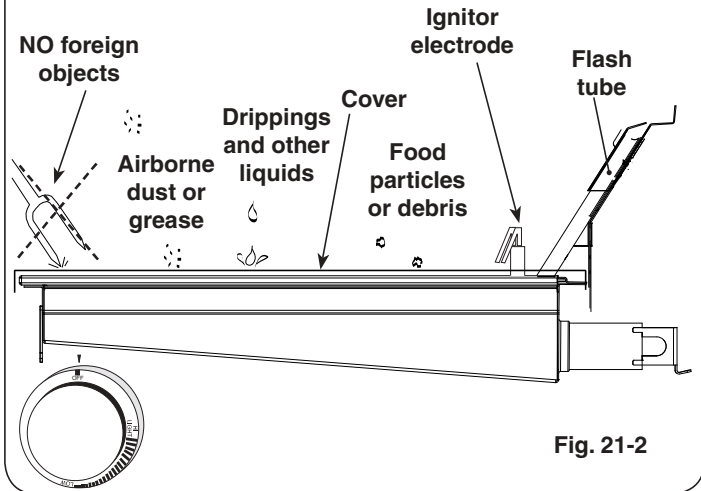

Fig. 21-2
- When not in use, **always** cover the infrared burner with the stainless-steel cover. This protects the burner from drippings (from other cooking), airborne particles, and foreign objects (Fig. 21-2).
- Do not strike or scratch the burner ceramic as it may chip, crack, or break (Fig. 21-2).